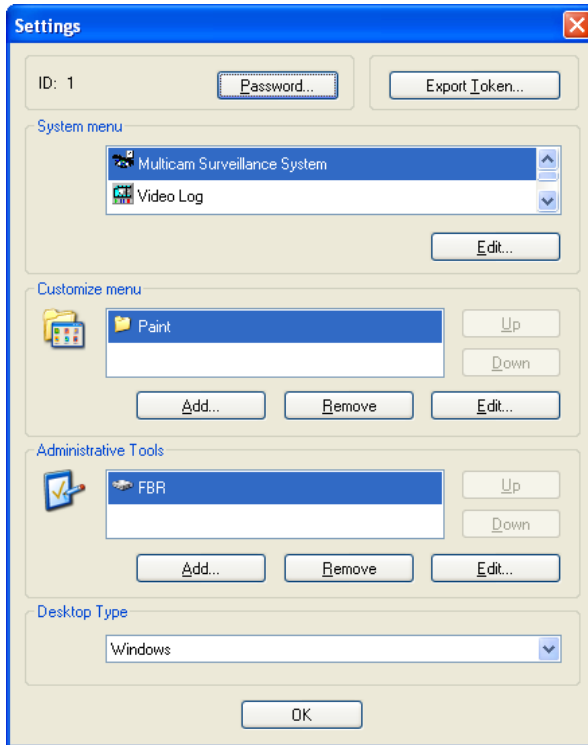

Figure 11-10
1. Click the **Export Token** button (Figure 11-10). The Enter Token Code dialog box.
2. When the Settings window (Figure 11-10) appears, select **Windows** in the Desktop Type field and exit from the window.